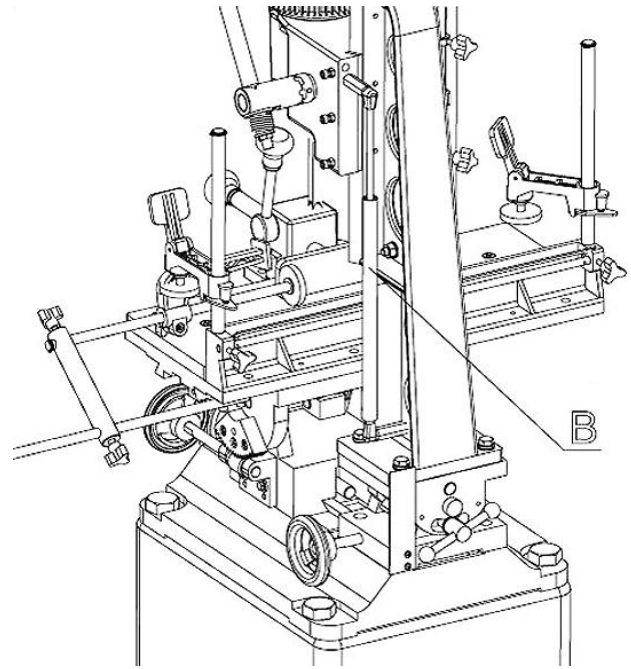

Fig 5
2. Fig. 5, illustrates the gas spring (B) assembled to the machine. The gas spring (B) keeps the head in the up position.